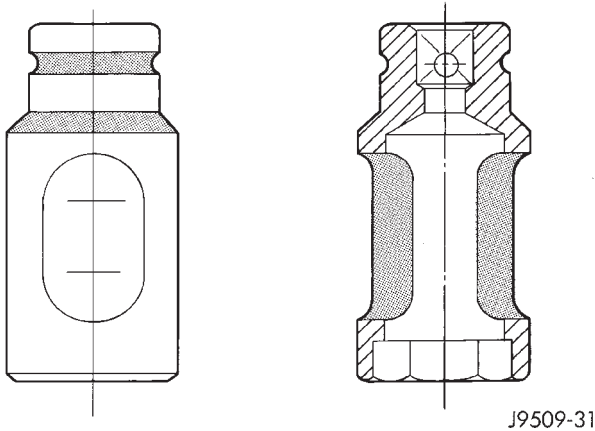

Fig. 32 Fuel Injector Tool VM.1012
(21) Remove the Crankcase breather hose from rear of the valve cover
(22) Remove the injector sensor wire and the glow plug hot lead.
(23) Remove the fuel lines and fuel filter. Refer to Group 14, Fuel Systems for procedure.
(24) Remove the injector fuel lines from injectors to pump.
(25) Remove the fuel injectors with tool VM.1012 (Fig. 32). Refer to Group 14, Fuel System for procedure.
(26) Remove the engine cylinder head cover.